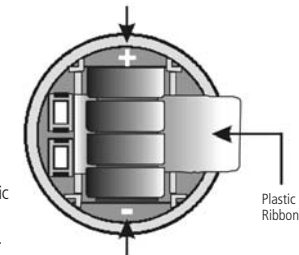

Figure 12: Battery compartment
- Remove old batteries by pulling plastic ribbon. Replace with fresh ones. Note polarity as shown in figure 12.